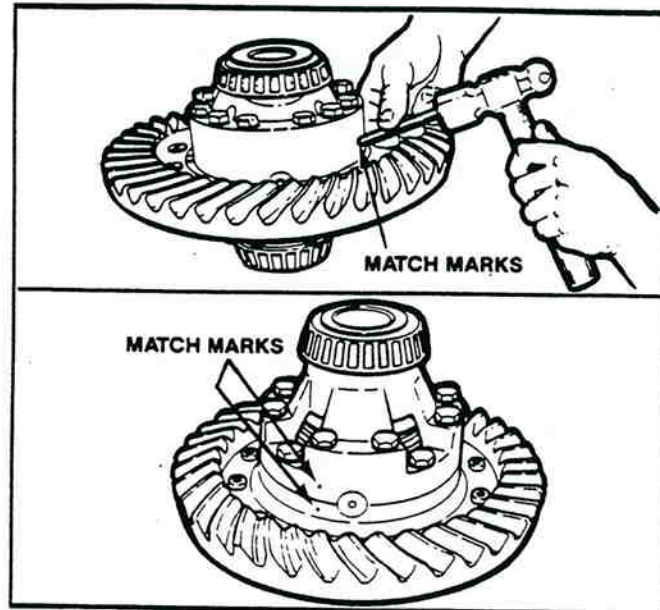

Figure 2-17. Putting Match Marks On Case Halves.
1. If the matching marks on the case halves of the differential assembly are not visible, mark each case half with a center punch and hammer. The purpose of the marks is to match the plain half and flange half correctly when you assemble the carrier (Figure 2-17).